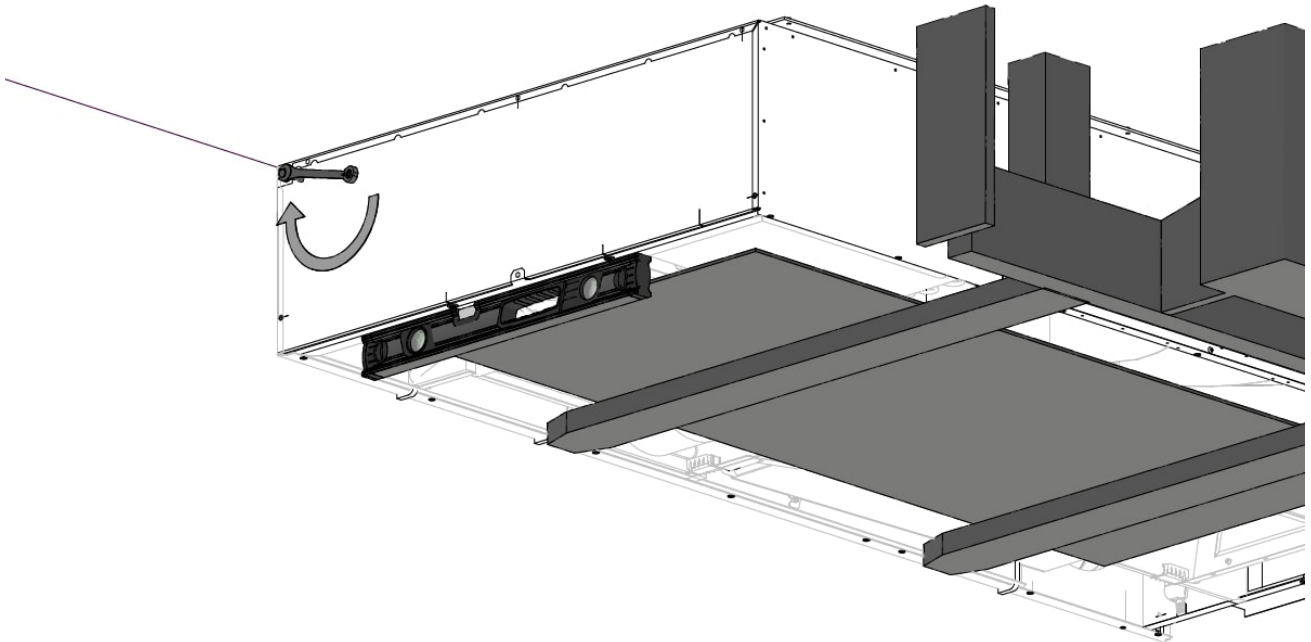
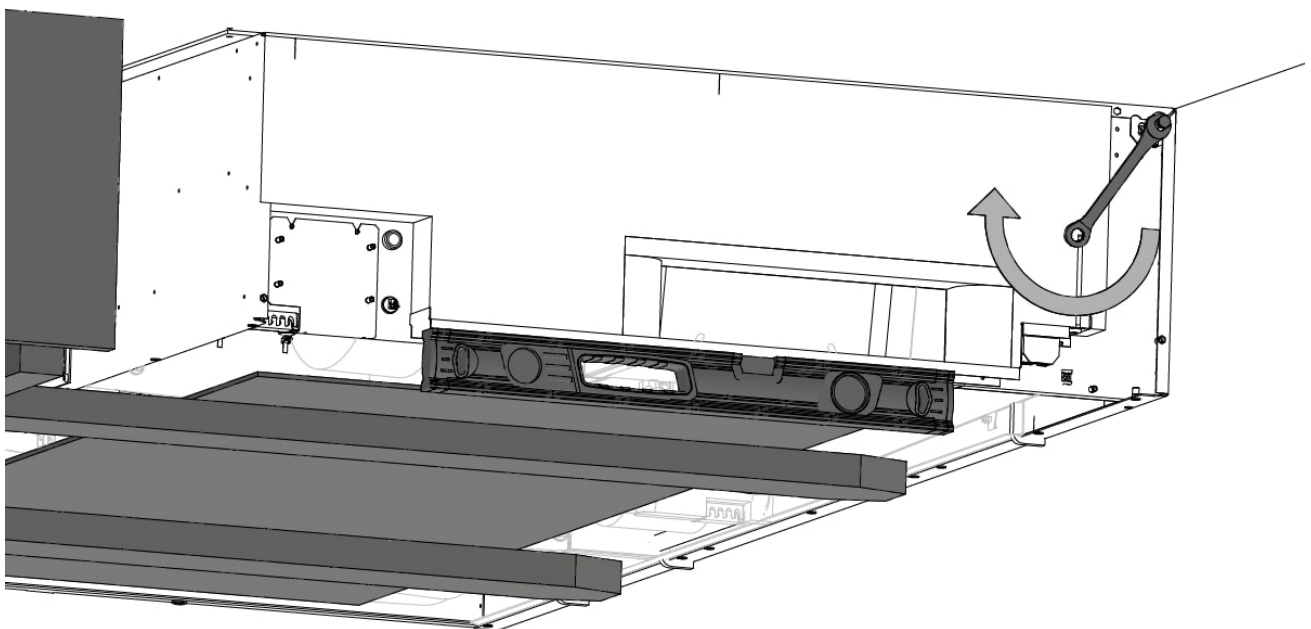

Figure 14: Attach the unit to the bracket, left-hand side
Figure 15: Attach the unit to the bracket, right-hand side
4. Attach the unit to the bracket on both sides using the large bolts that you kept when you dismantled it, see Figure 14 and Figure 15.